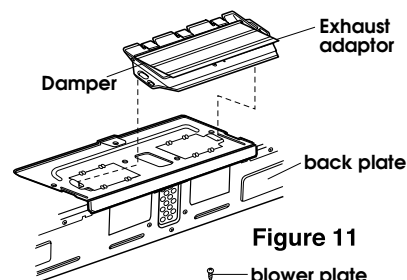

Figure 11
1. Attach the exhaust adaptor to the blower plate by sliding it into the guides. See Figure 11.